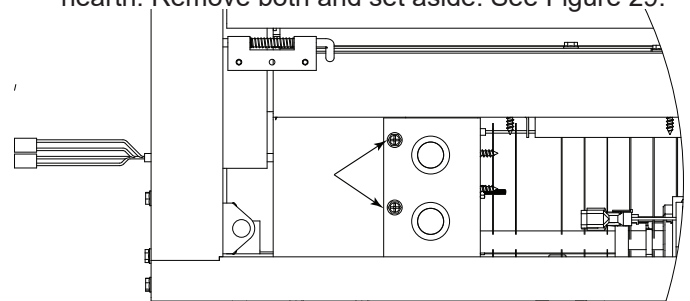

Figure 26. LED Control Assembly Screws
4. Remove two screws holding LED control assembly in place. See Figure 26. Turn flat and pull forward.
10. Reinstall front and rear hearth with nineteen (19) screws.
11. Install two (2) air deflection glass panels and glass media.